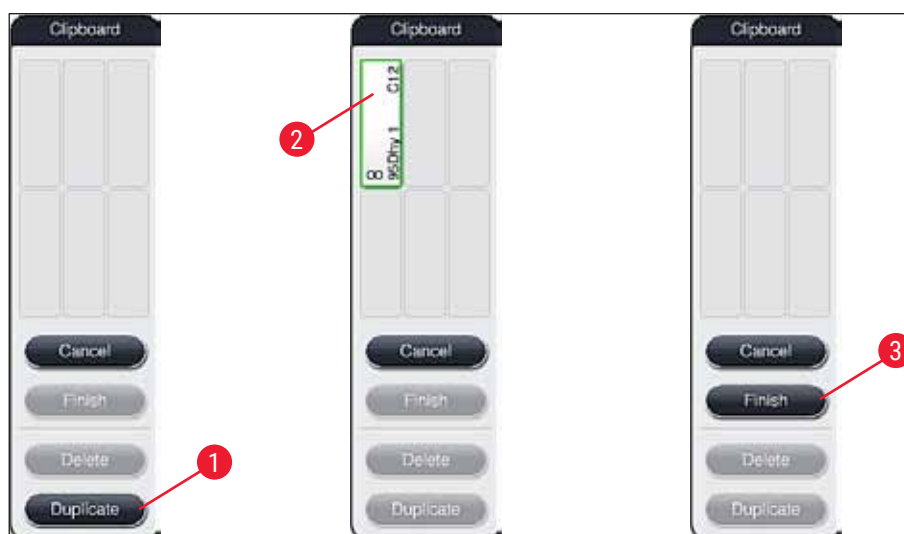

Fig. 54
2. Note the subsequent information message and confirm it with **OK**. A new **Clipboard** (→ "Fig. 54") window opens.